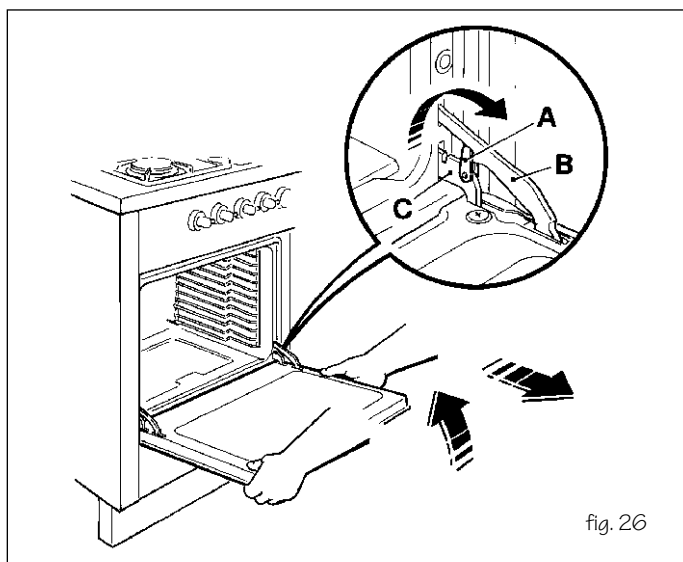

fig. 26
- As soon as the hinge is free, pull the door forwards tilting it slightly upwards to release sectors "C" and "B" (Fig. 26).